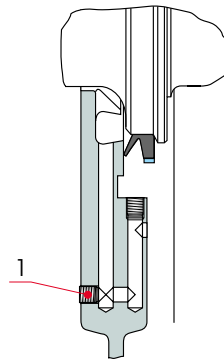

Fig 11-3
- 1** Remove the outer plug (1), Fig 11-3.